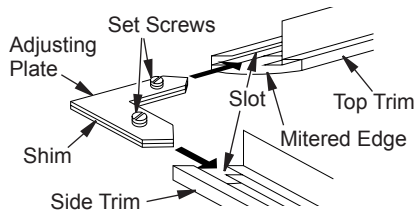

Figure 14 - Assembling Perimeter Trim
- Align shim under adjusting plate as shown in Figure 14.
- Slide one end of adjusting plate/shim in slot on mitered edge of top trim (see Figure 14).
- Slide other end of adjusting plate/shim in slot on mitered edge of side perimeter trim (see Figure 14).